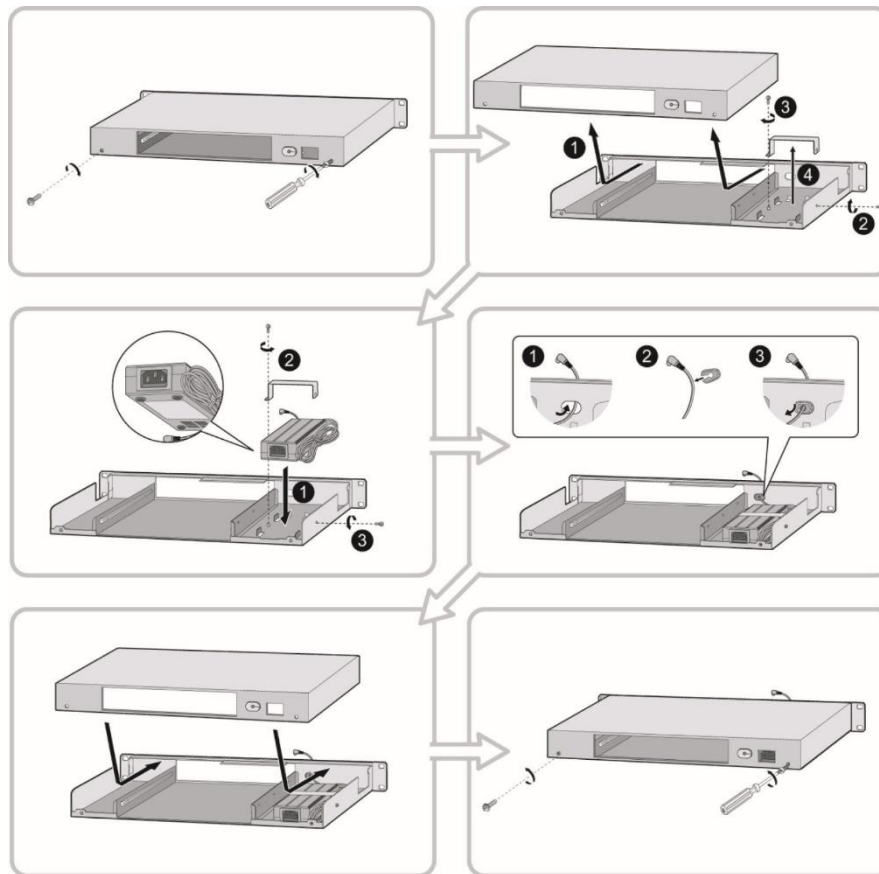

Figure 5.6-1 1U RMB Adapter Installation
- 1) Install the AC/DC adapter in the 1U-RMB. Refer to Figure 5.6-1.
- Remove the two (2) screws on the rear of 1U-RMB to release the upper housing.
- Remove the two (2) screws holding the adapter bracket.
- Install an adapter, the label side of the adapter should be placed on the inner surface of 1U-RMB), place the adapter bracket over the adapter and fasten the two (2) screws.
- Replace the upper housing and fasten the two (2) screws.